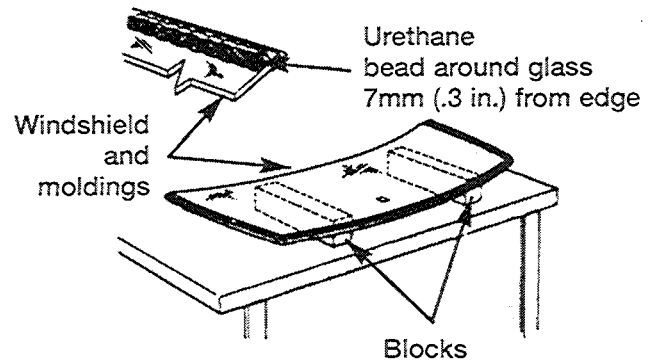

Fig. 4 Work Surface Set Up
2. Position the windshield inside up on a suitable work surface with two padded, wood 10 cm by 10cm by 50 cm (4 in. by 4 in. by 20 in.) blocks, placed parallel 75 cm (2.5 ft.) apart (Fig. 4).